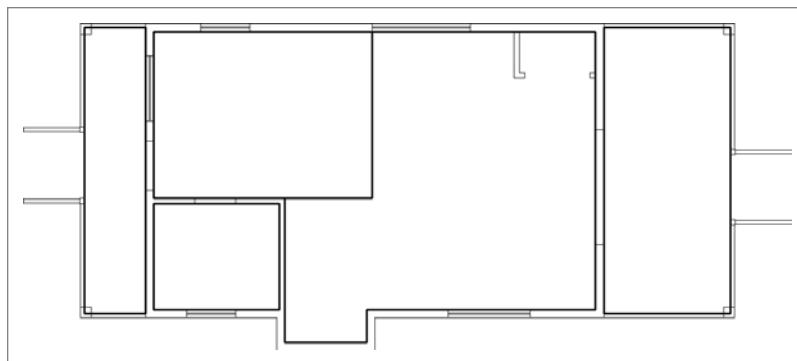

FIGURE 9.21 Divide the cabin into five distinct sections using closed polylines.
5. Draw a polyline around each of the decks using the Perpendicular object snap to draw the segments through the posts on the decks' outside corners. Your cabin should be divided as shown in Figure 9.21.